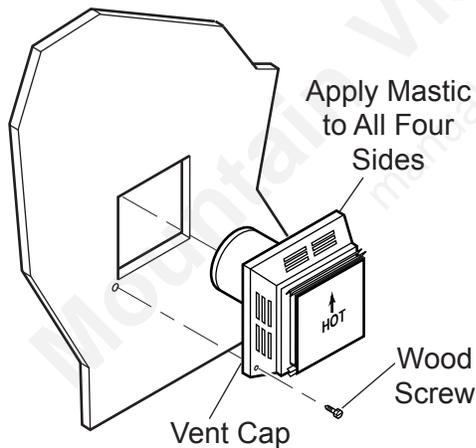

Figure 12 - Installing Horizontal Vent Cap
4. Apply a bead of non-hardening mastic around the outside edge of vent cap. Position the vent cap in the center of the 7 1/2" (190mm) or 9 1/2" (241mm) hole on the exterior wall with the word "UP" on the vent cap facing up. Insure proper clearance of 1" to combustibles is maintained. Attach the vent cap with four wood screws supplied. See Figure 12.